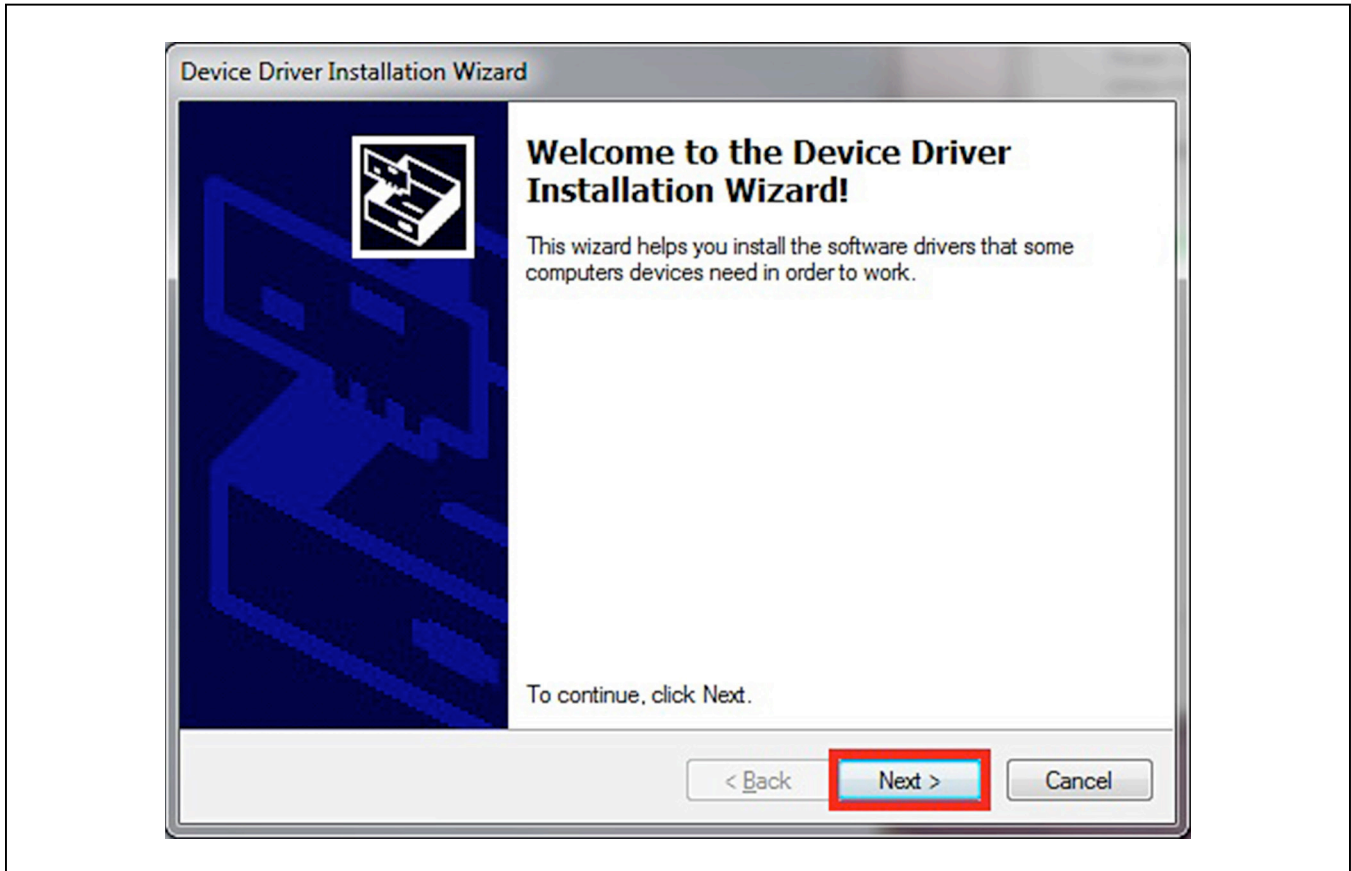

Figure 6. Device Driver
8) Click on **Next** when the Device Driver Installation Wizard appears (Figure 6).